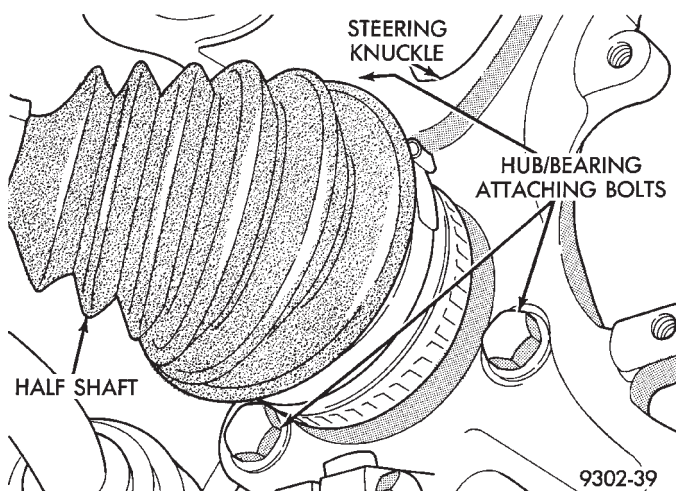
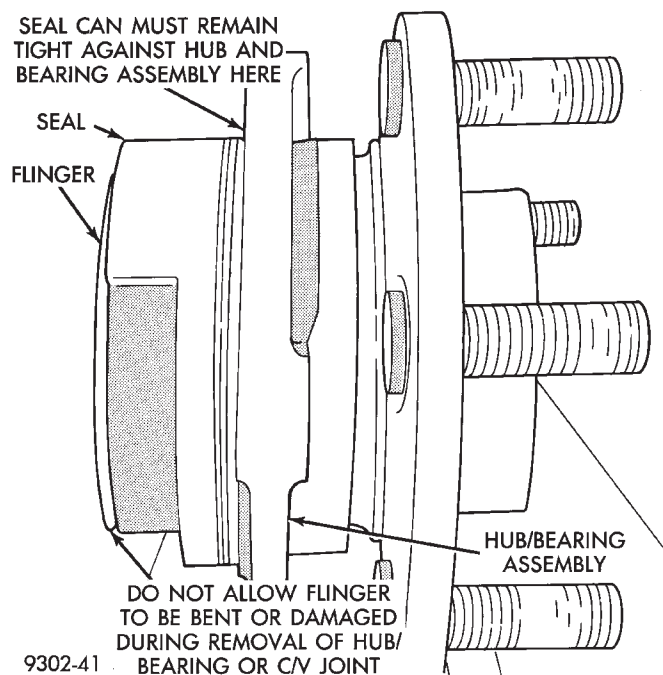

**Fig. 32 Hub And Bearing Assembly Retaining Bolts**
**Fig. 35 Hub And Bearing Assembly Seal**
(6) Remove the 3 hub and bearing assembly to steering knuckle attaching bolts (Fig. 32).
**CAUTION:** When removing hub and bearing assembly from steering knuckle, be careful not to damage the flinger disc (Fig. 35) on hub and bearing assembly. If flinger disc becomes damaged, hub and bearing assembly **MUST** not be used and **MUST** be replaced with a new hub and bearing assembly.
**CAUTION:** If metal seal (Fig. 35) on hub and bearing assembly is seized to steering knuckle and becomes dislodged on hub and bearing assembly during bearing removal. The hub and bearing assembly **MUST** not be reused and **MUST** be replaced with a new hub and bearing assembly.
**CAUTION:** When installing hub and bearing assembly into steering knuckle, be careful not to damage the flinger disc (Fig. 35) on hub and bearing assembly. If flinger disc becomes damaged, hub and bearing assembly **MUST** not be used and **MUST** be replaced with a new hub and bearing assembly.
(1) Install hub and bearing assembly onto stub shaft and into steering knuckle until squarely seated on face of steering knuckle
(2) Install the 3 hub and bearing assembly to steering knuckle attaching bolts (Fig. 32). Equally tighten all 3 mounting bolts until hub and bearing assembly is squarely seated against front of steering knuckle. Then tighten the 3 hub and bearing assembly mounting bolts to a torque of 110 N·m (80 ft. lbs.)